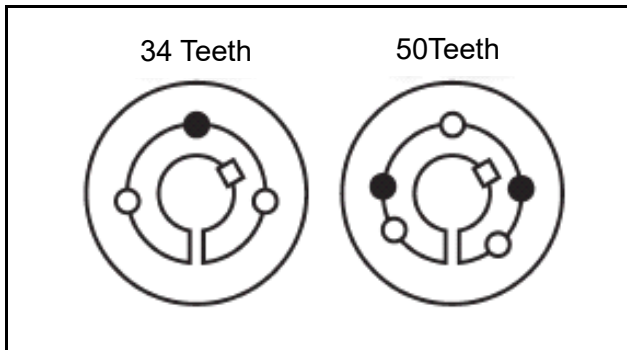

Figure 17
3. Insert the screws into all jack screw holes indicated by (•) [Figure 17].
4. Lightly oil the screws and thread them into the half threaded holes indicated by (O) [Figure 17].